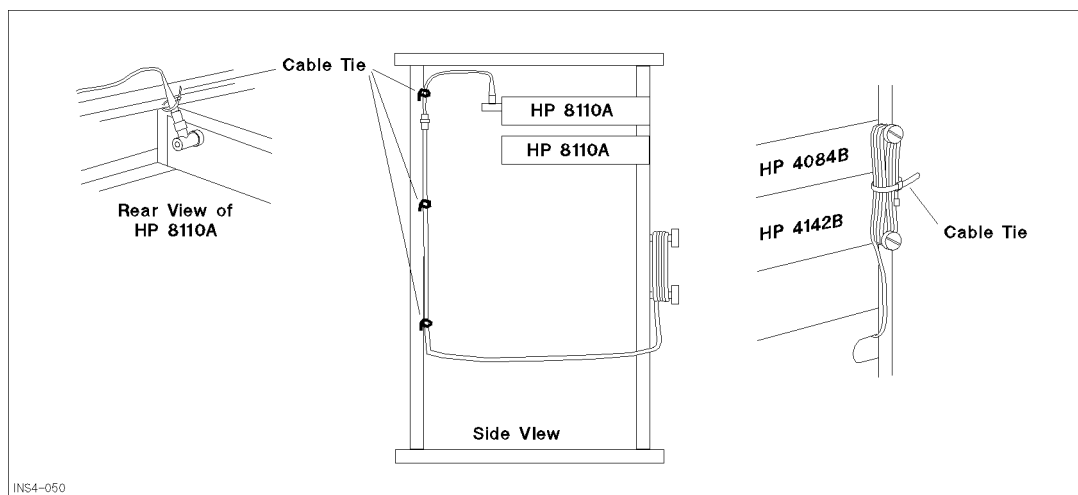

Figure 4-12. Installing the BNC-to-SMA cable assembly
- a. Attach a BNC T-adapter (6) to the TRIGGER OUT terminal on the rear panel of the top HP 8110A (PG1).
- b. Attach a probe tip-to-BNC adapter (7) to the BNC T-adapter (6).
- c. Connect a resistive probe (8) to the probe tip-to-BNC adapter.
- d. Connect a BNC-to-SMA cable assembly (9) to the resistive probe.
- e. Connect a 50 Ω SMA terminator (10) to the BNC-to-SMA cable assembly.
- f. Fix the resistive probe to the support rail with a cable tie (see Figure 4-12).
- g. Fix the BNC-to-SMA cable assembly to the cabinet frame with three cable ties (see Figure 4-12).
- i. Wind the cable assembly around the two knobs (see Figure 4-12).